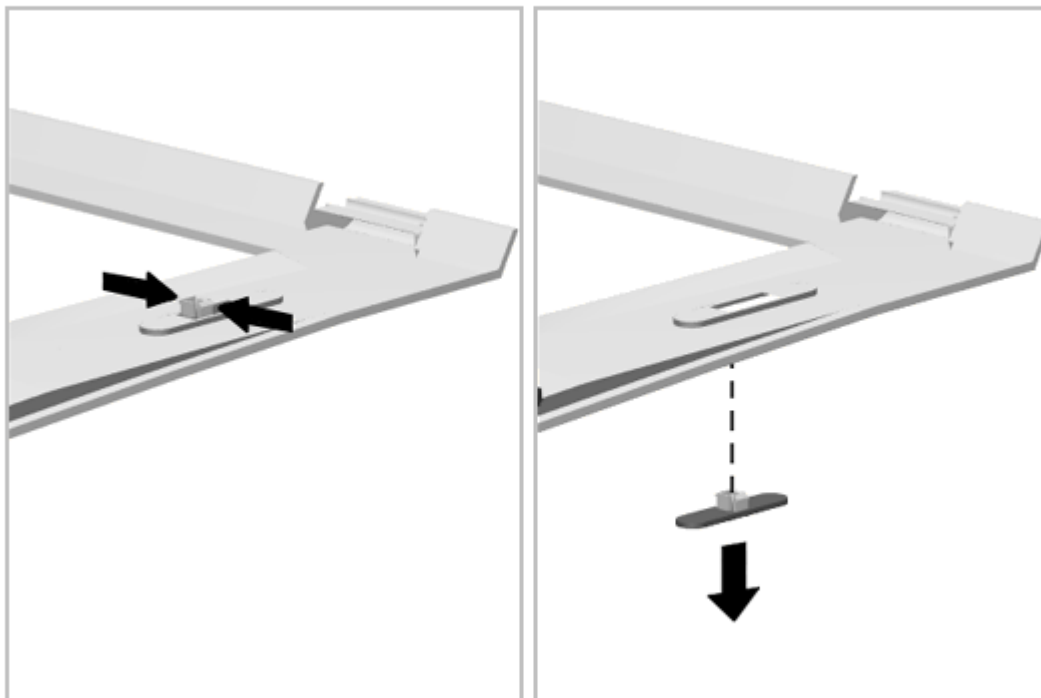

Figure 5-35. Removing a Brightness/Contrast Control Actuator
3. Squeeze the tabs on the back of the actuator (Figure 5-35) and let it drop out.